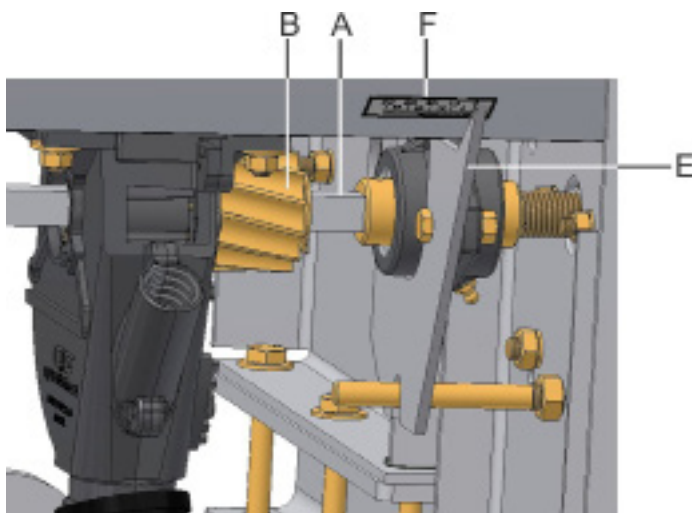

fig.13
The displacement of axle (A) (fig. 13) allows doing the setting procedure, thus increasing or decreasing the work gap the rotors (B) inside the feeder box, being made through the handle (C) (fig. 14). After getting the desired flow of seed, attach the regulator handle through the holding nut (D).
Note the position of the indicator (E) (fig. 13) in millimeter scale (F) to obtain approximate setting through the indicative tables as the crop to be established.